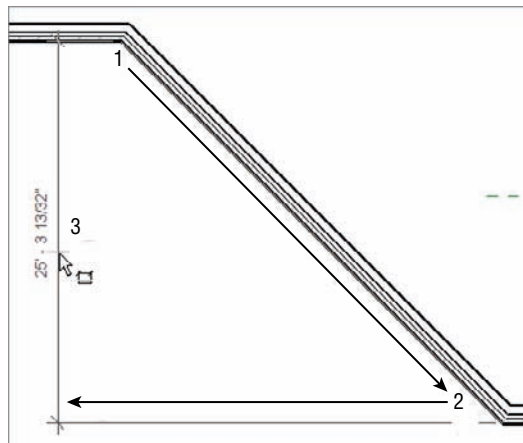

FIGURE 5.17 When you add a Linear dimension to an angled wall, you will get a straight dimension.
5. Pick the same spot on the other end of the wall, as shown in Figure 5.17. When you pick the second corner, the dimension will follow your cursor in a straight direction.
6. Move your cursor to the left approximately 8' (2400mm) past the first point that you picked, and pick the third point to place the dimension (see Figure 5.17).